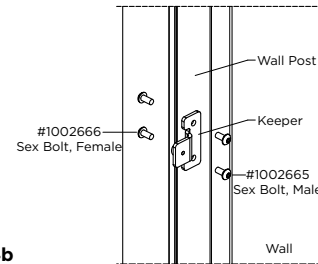

Fig. 4b
4. Identify the pilot hole location of the keeper. Refer to partitions installation instructions for additional information. Using the keeper as a template, mark the mounting holes on the wall post. Drill through marked holes using 1/4" drill bit. Secure keeper to wall post using through bolts (#1002665 and #1002666). **Fig 4b.**